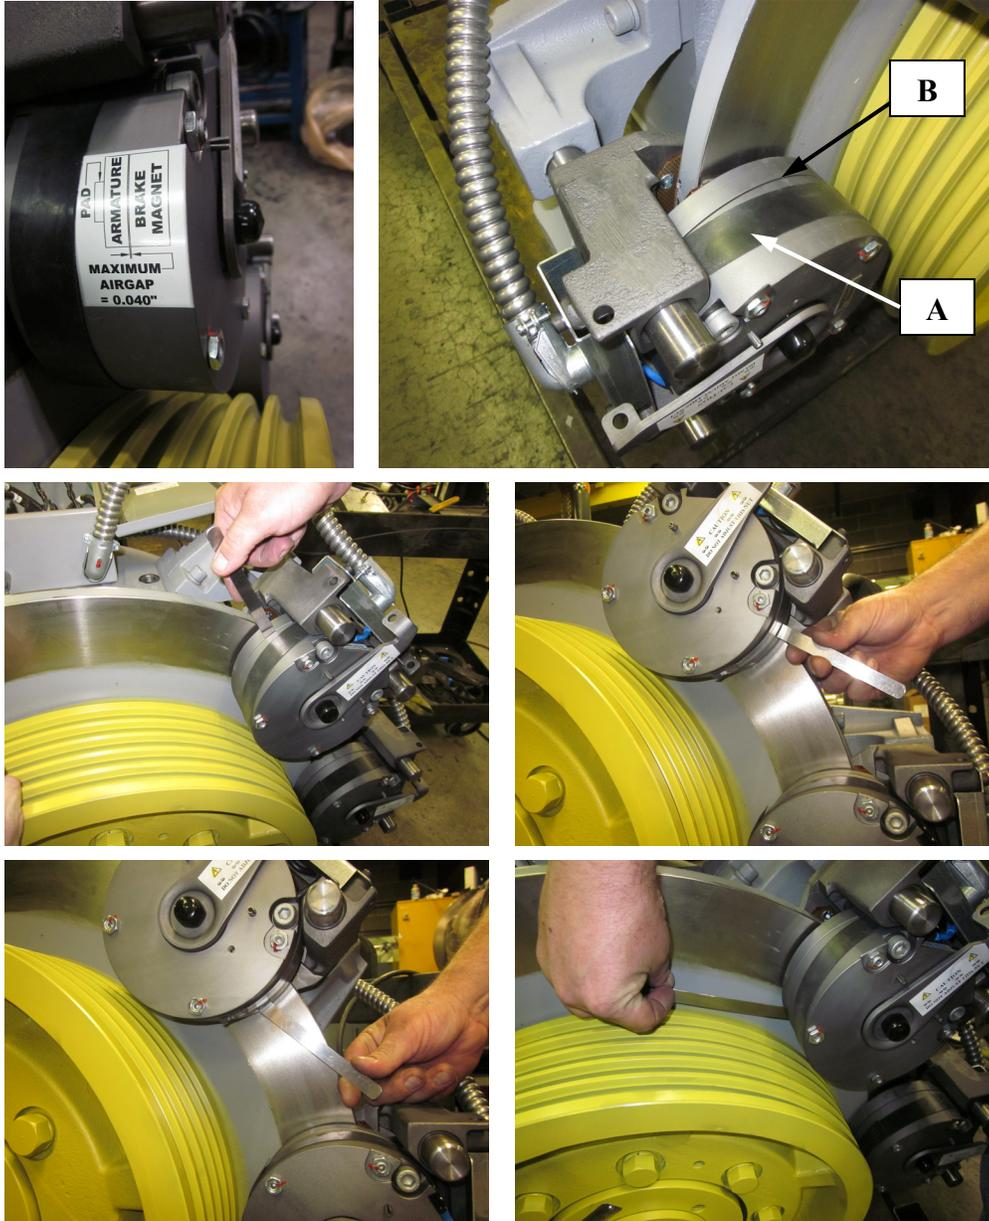

Figure 21: *****IMPORTANT!!!** Brake average air gap must not exceed 0.040 inch. *******
- **IMPORTANT:** With Brake de-energized - move rubber dust shield “A” to expose Air Gap “B”. See Figure 21 below. Air Gap at “B” should be less than .040”. Brake under pressure from counterweight load may exhibit uneven air gap. Check air gap at 4 places around brake and average the readings. If average air gap measures greater than .040”, consult Hollister-Whitney.